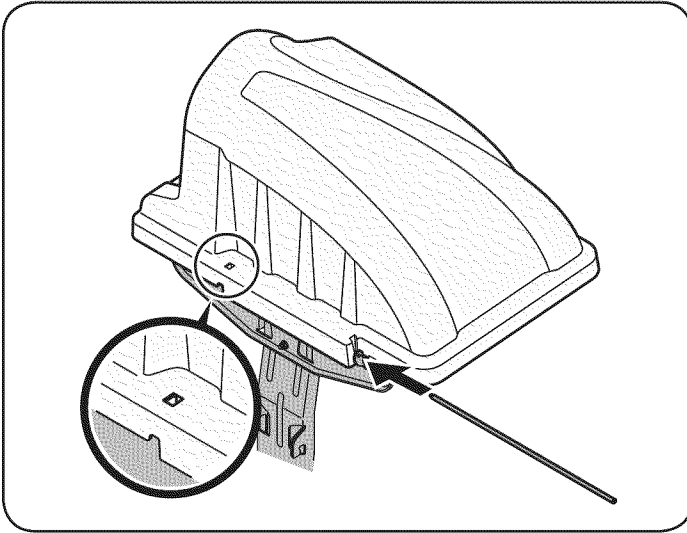
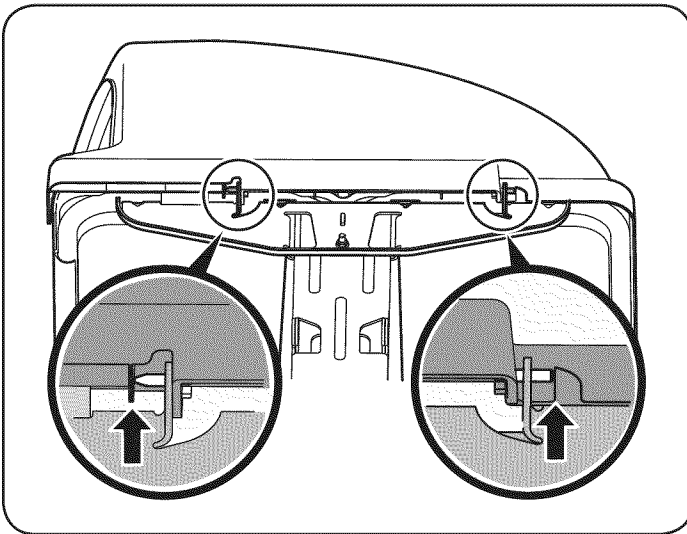

Figure 17
Figure 18
6. Slide the hinge pin into the hole located on the mounting tab, as in Fig. 17 on the following page. Use the cut-out window (See inset in Fig. 17) to line up the hinge pin on the other side and push pin all the way in until it reaches the end-stop. At this point the pin clips into place and is secured by a tab in the bagger cover. See Fig. 18.